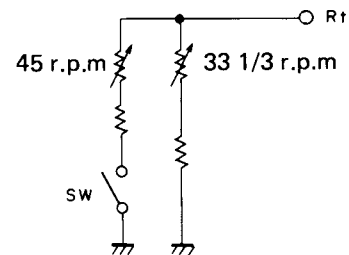

Fig. 12-1 Switching reference frequency
1. Since the rotational speed is detected at a fixed frequency, the frequency must be converted to a voltage (DC). This function is performed by the F/V converter.
4. Switching reference frequency is shown in Fig. 12-1.